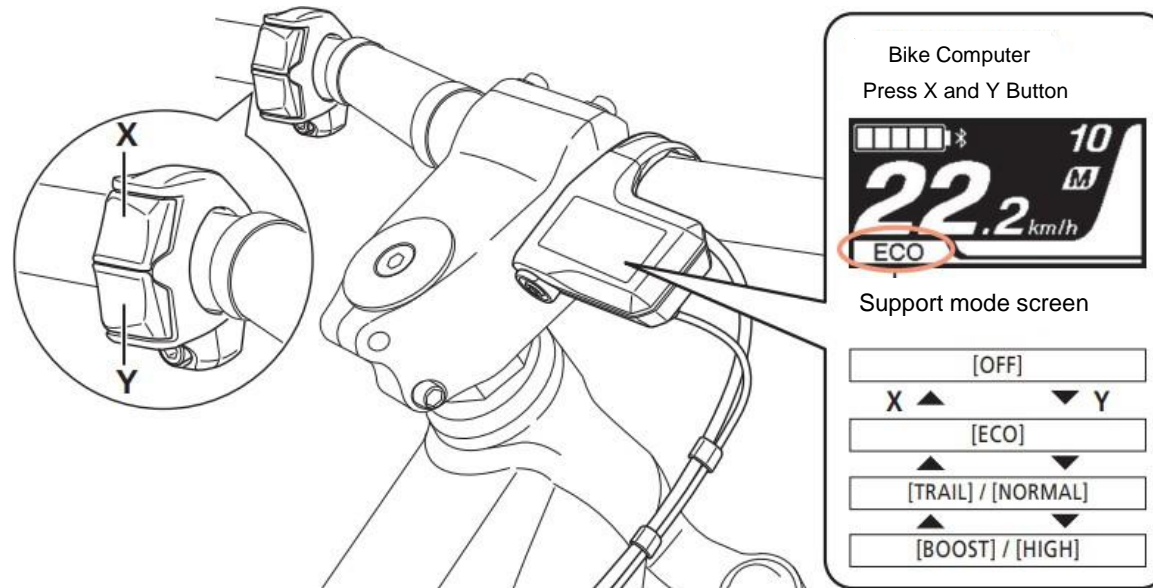

Figure 4.8
3. Select the assistance mode. Figure 4.8